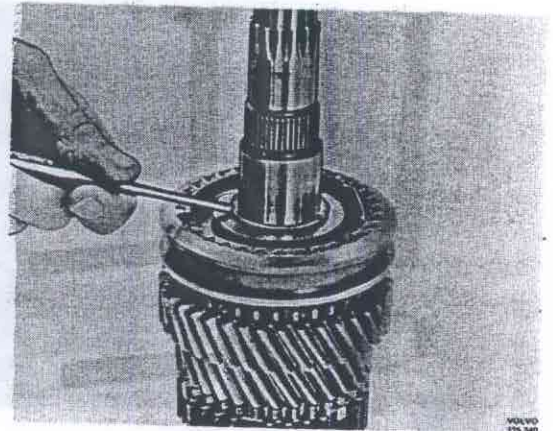

Fig. 43-86. Driving on lockring
7. Fit the lock ring which gives minimum clearance. Lock rings are available in sizes 1.8, 1.9 and 1.0 mm (0.072, 0.076 and 0.079"). Check that the lock ring has bottomed properly by driving it down with a drift, Fig. 43-86.